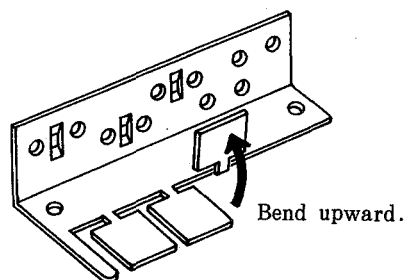

Fig. 36
- (6) Bend upward the strain relief fixing slit cover of the cable holding angle as shown in Fig. 36, and fix the angle to the cable fixing plate with screws.